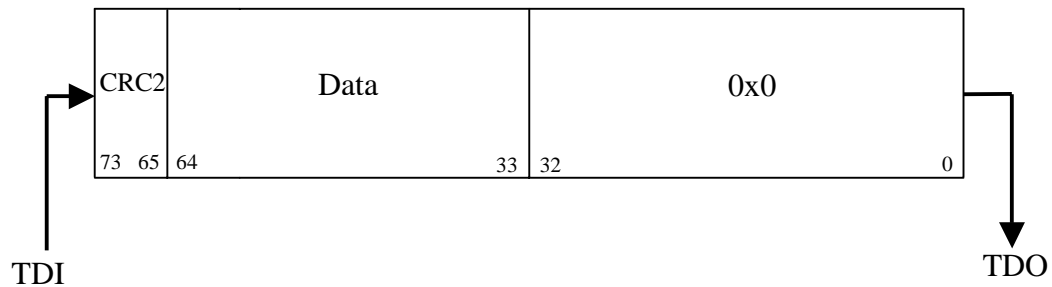

Figure 5: OpenRISC Debug Interface Scan Chain (data shifted out)
- CRC2 (Figure 5: OpenRISC Debug Interface Scan Chain (data shifted out)) is shifted out. It is calculated from the address and the R/W that were shifted in and data that is shifted out (data read from register) when read operation is in progress or from delayed CRC1 when write operation is in progress.